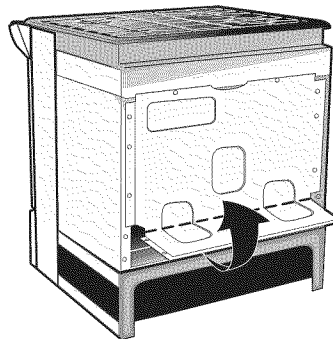

Figure 2
1. Remove the 3 screws at the lower end of the rear wire cover, then bend the lower end of the rear wire cover (access cover) upward to expose range terminal connection block (see Figure 2).
- Remove the 3 screws at the lower end of the rear wire cover, then raise the lower end of the rear wire cover (access cover) upward to expose range terminal connection block (see figure 2).